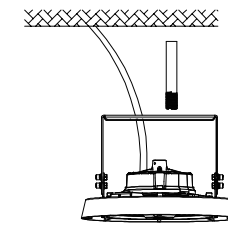

Figure9
2. Insert 1/2" NPT stem into the bracket hole(Figure9);